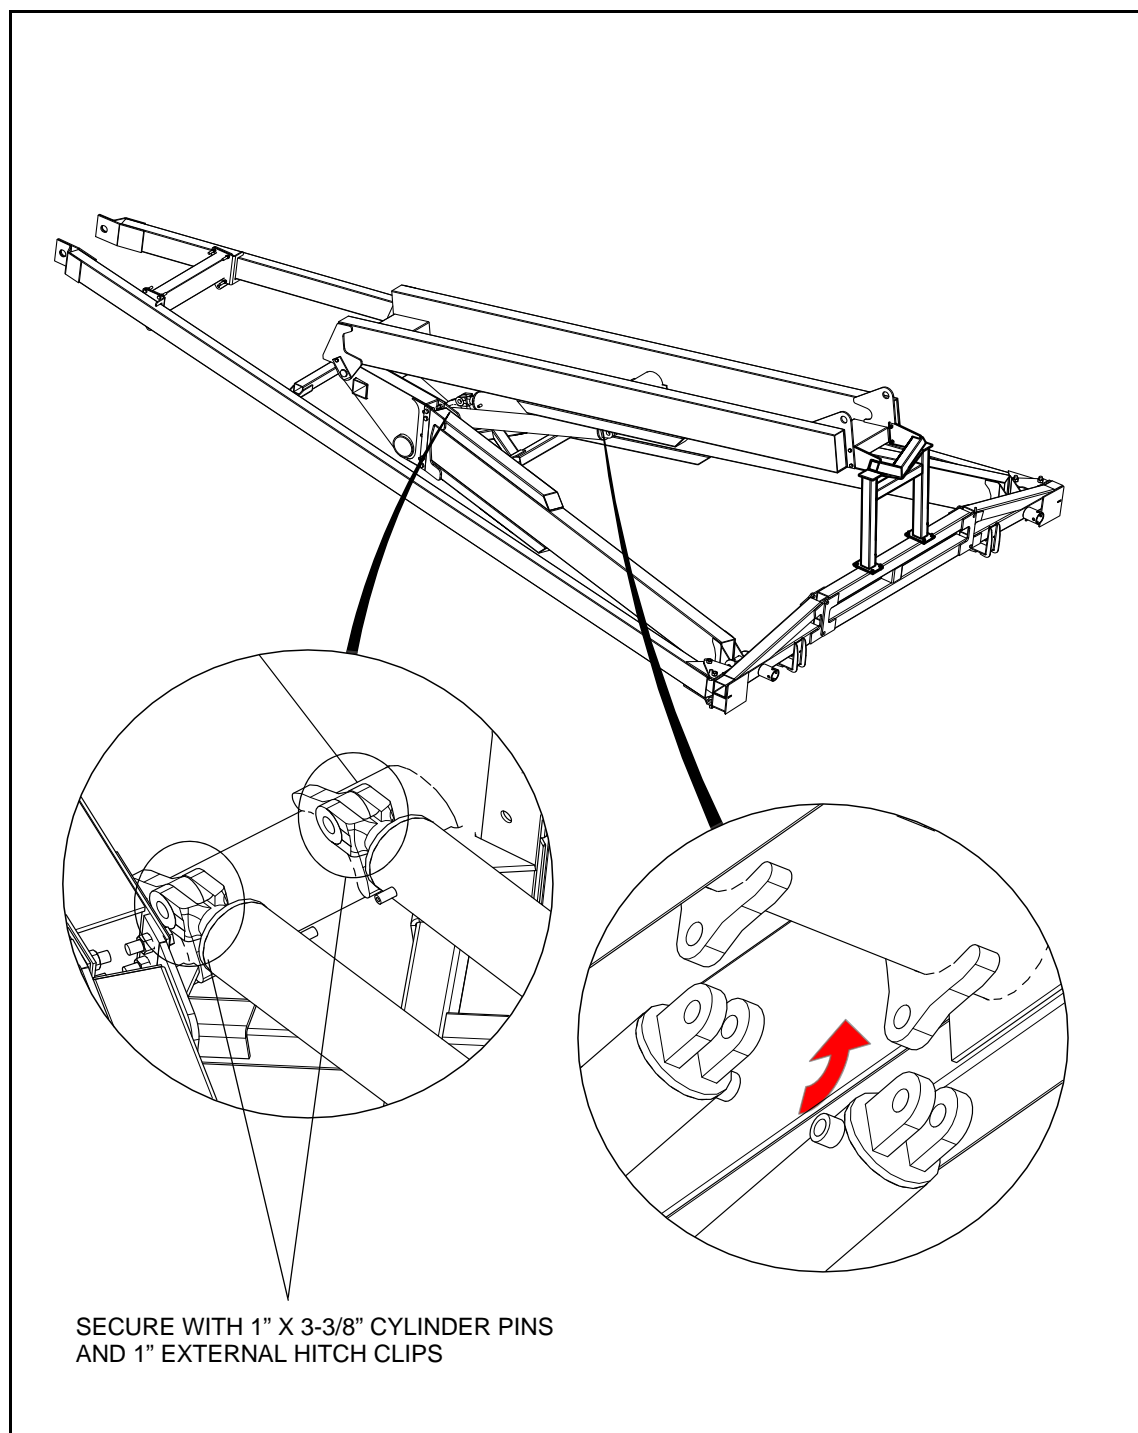

Figure 3.24 Installing Hydraulic Cylinders
2. Pin the cylinder in place using 1" x 3-3/8" cylinder pins and 1" external hitch clips (see Figure 3.24).